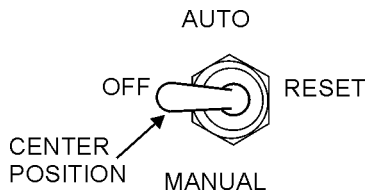

Figure 42. Off/Manual Auto Switch (OFF)
4. Place the Off/Manual/Auto Switch (Figure 42) in the "OFF/RESET" position